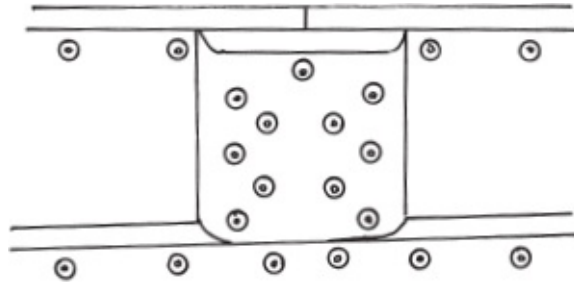

FIGURE 122 } Backing block with rivets.
- 10 *When you are satisfied with the fit, it's time to make the butt blocks*; they should be as thick as the planks and have a width that allows double rows of rivets at each plank end. The butt block goes up to the plank top, and a rivet is drilled down through butt block in the center of the joint and out through the plank above as a sealing of the joint (see Figure 122).